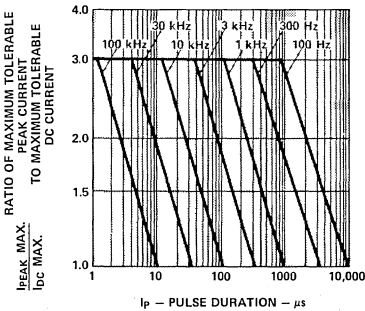

Figure 5. Maximum Tolerable Peak Current vs. Pulse Duration. ( $I_{DC}$  MAX as per MAX Ratings.)
- See Figure 5 to establish pulsed operating conditions.